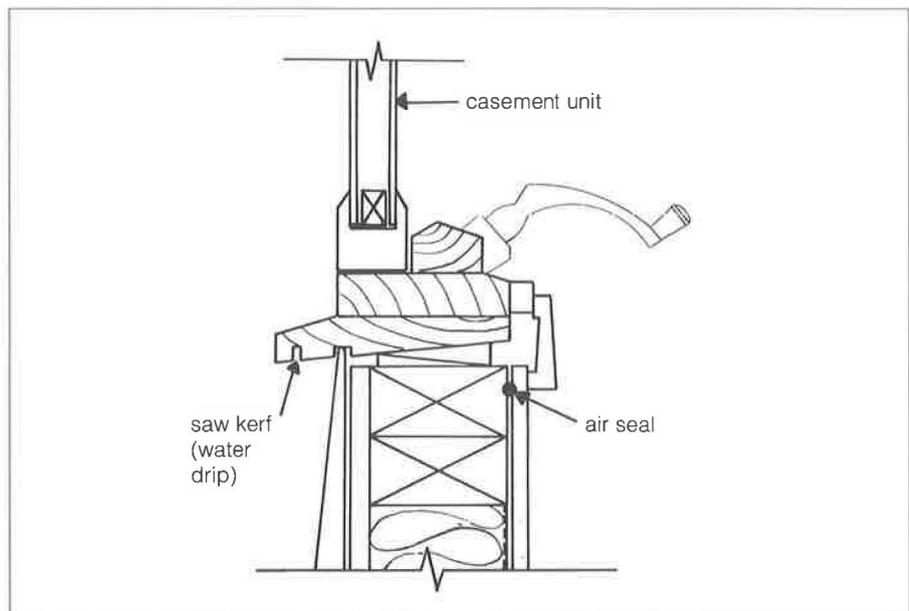

Fig. 29. Saw kerf prevents water from entering behind siding
- Eliminate the force due to capillarity by creating a gap of 2.5 mm (1/10") in the lap joint of the siding, and use drips such as saw kerfs under the sills of windows and doors (*fig 29*).